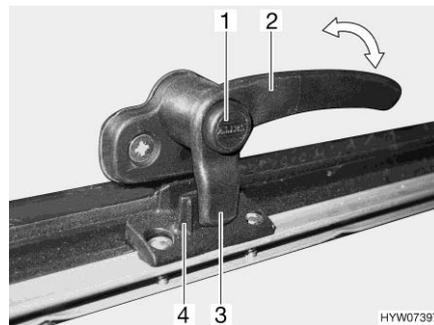
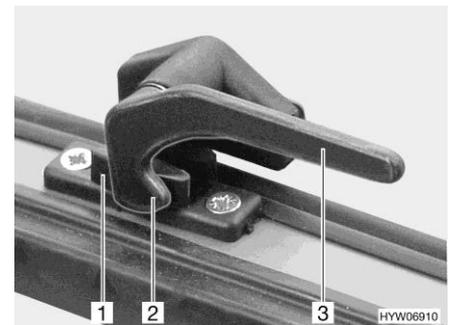

Fig. 68 Catch lever with safety knob in "closed" position
Fig. 69 Catch lever in "closed" position
- Press and hold the security button (Fig. 68,1), if present.
- Turn the catch lever (Fig. 68,2 or Fig. 69,3) a quarter turn towards the centre of the window.
- Turn the catch lever (Fig. 68,2 or Fig. 69,3) a quarter turn towards the window frame.
The locking catch (Fig. 68,3 or Fig. 69,2) on the catch lever is entirely on the inner side of the window catch (Fig. 68,4 or Fig. 69,1).
- "Firmly closed" (Fig. 68 and Fig. 69)